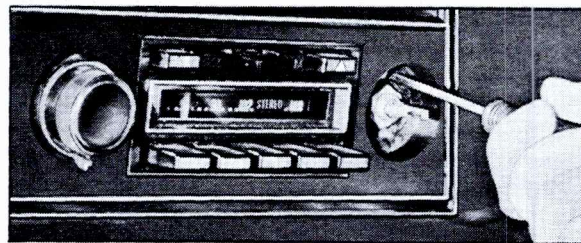

Fig. 15-5 Adjusting Antenna Trimmer
4. Adjust antenna trimmer, located behind right control knob, for maximum volume. Access to antenna trimmer is gained by pulling off right control knob and ring and using a screwdriver to adjust the screw located behind the control knob, Fig. 15-5.